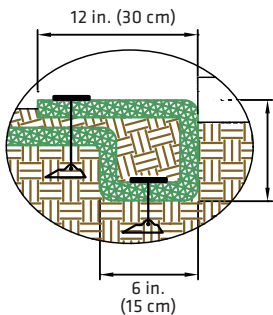

FIGURE 2
- ▶ For the leading edge of a slope or channel, secure the RECP in a 6 in. (15 cm) x 6 in. (15 cm) wide trench with approximately 12 in. (30 cm) of RECP extended beyond the upslope portion of the trench. Anchor the RECP with a row of staples and anchors approximately 12 in. (30 cm) apart in the bottom of the trench. Backfill and compact the trench after stapling. Apply seed to backfilled soil and fold remaining 12 in. (30 cm) of RECP over seeded soil. Secure the RECP with a row of staples and anchors approximately 12 in. (30 cm) across the width of the RECP (Figures 2 and 3).